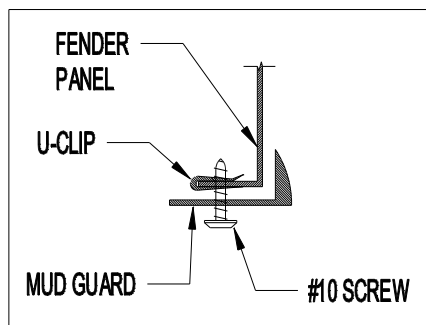

Figure 3
6. Install a #10 screw through location D and into a U-clip on the backside of the liner (Figure 3).